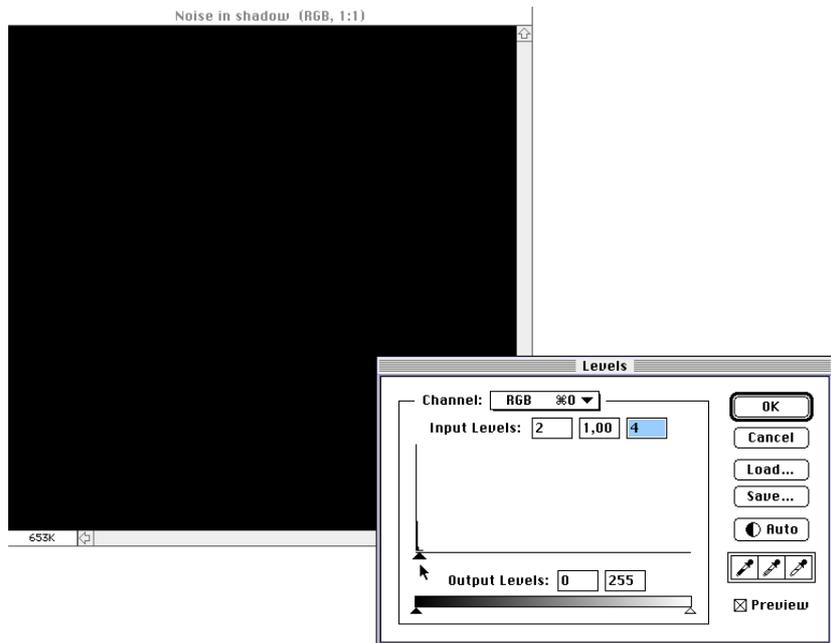

Fig. 1
- 8 • Select **adjust level** and move the left hand (black) marker to the right until level 2 is obtained (fig. 1).
- 10 • Check the image and ensure that there are no stripes on the screen, (fig. 1).